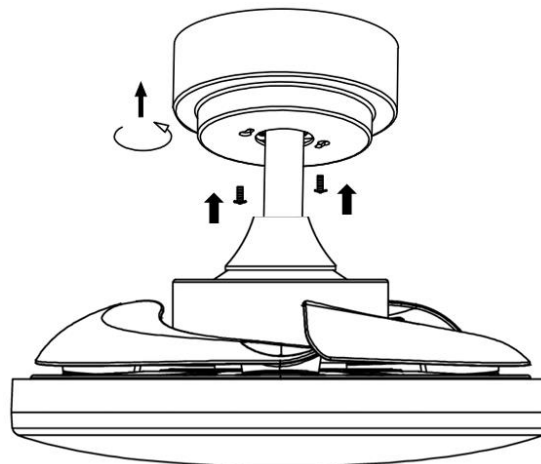

Fig. 11
1. Loosen the 2 screws at the bottom of the mounting bracket. (Fig.11)
2. Slide the canopy up to the mounting bracket and align the key holes on the canopy with the screws on the mounting bracket. Turn the canopy until it locks into place with the narrow section of the key holes and secure it by tightening the two screws. Avoid damaging the electrical wiring prepared previously. (Fig.11)